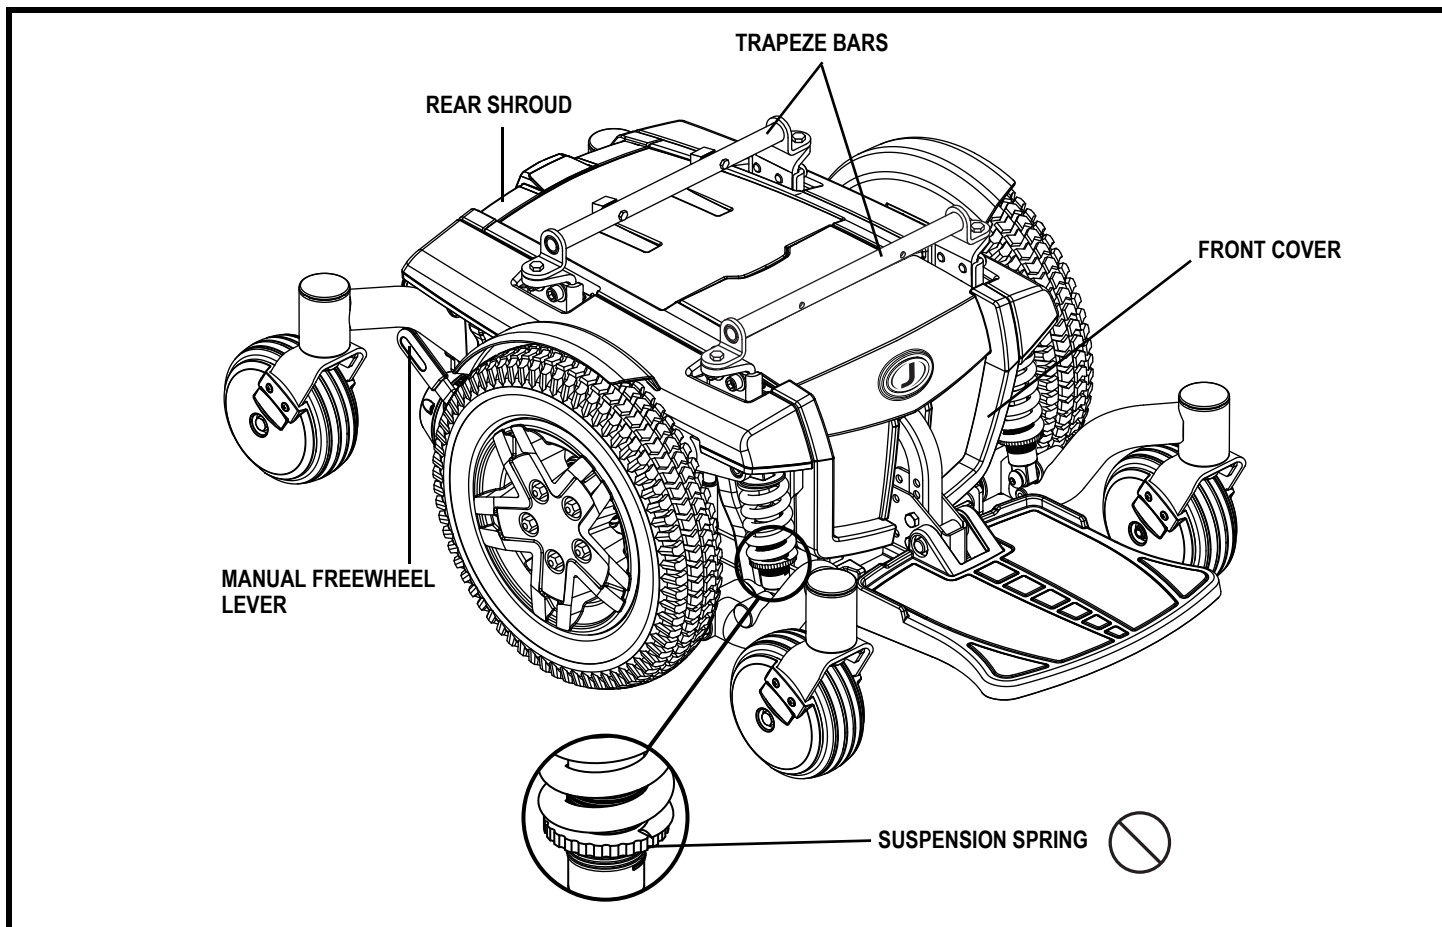

Figure 2. The Jazzy 600 ES Power Base
3. Remove the rear shroud. See figure 2.
5. Reinstall the rear shroud. See figure 2.